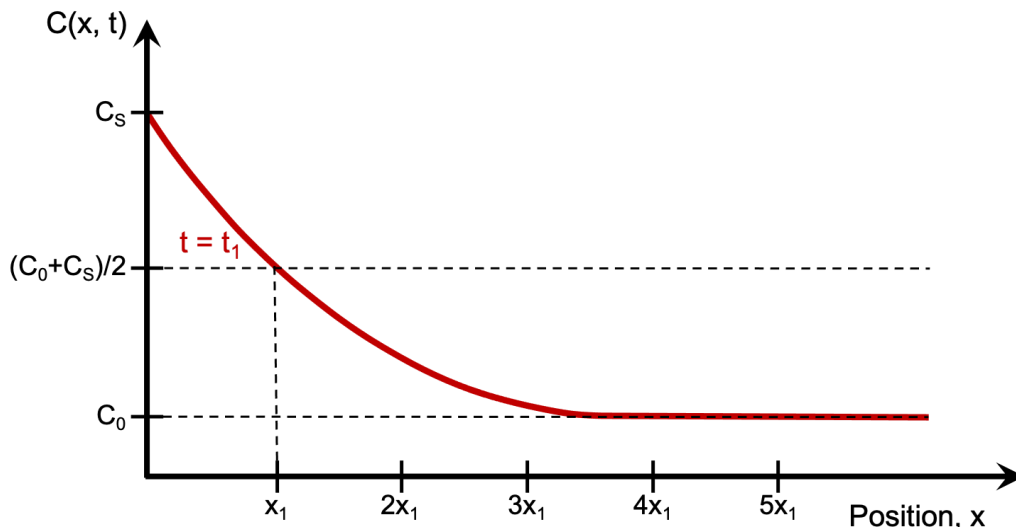

Figure 7: Carbon concentration resulting from carburizing at 700°C .
- f. Suppose now that we want to increase the surface hardness of the alloy with $C_0=0.38\text{wt.\% C}$, through carburization. This process involves exposing the surface to a carbon rich gas, leading to a fixed value of the surface concentration, C_s (where $C_s > C_0$), and diffusion of carbon into the material. Figure 7 plots the concentration profile after carburizing for a time $t_1 = 10$ minutes at a temperature of $T = 700^\circ\text{C}$. The distance $x_1 = (Dt_1)^{1/2}$ is identified where the carbon concentration takes a value of $(C_0 + C_s)/2$.
- ii. Sketch on Figure 7 the composition profile at time $t_2 = 4t_1$. On your sketch note the value of x where the concentration takes a value of $(C_0 + C_s)/2$ at time t_2 .